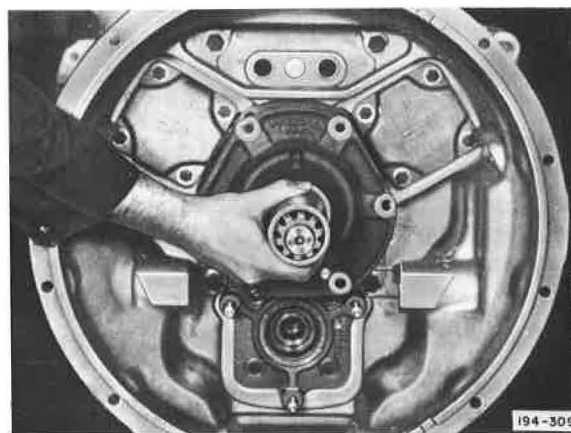

Figure 5-26. Removing Main Driving Pinion Bearing Cover
7. Remove main driving pinion bearing cover capscrews and cover. See Figure 5-26. Remove oil pump vane carefully and save. Tap on gear end of main driving pinion with a nylon mallet if necessary and remove assembly from case.